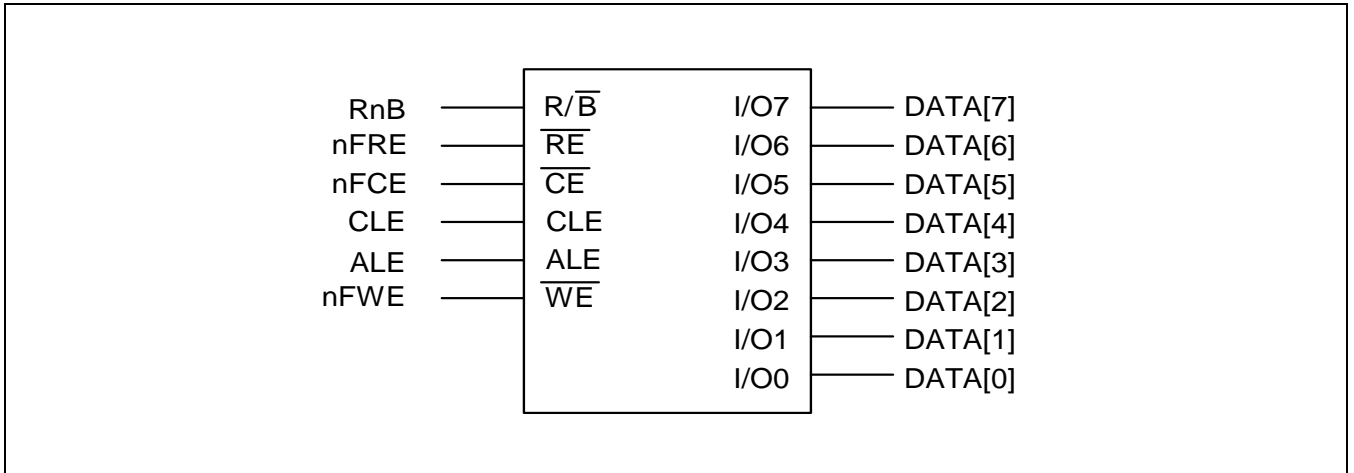

Figure 4-15. An 8-bit NAND Flash Memory Interface
- UG-24U03A (320x240 mono STN LCD) from SAMSUNG DISPLAY DEVICES CO., LTD. (refer to Figure 4-15)